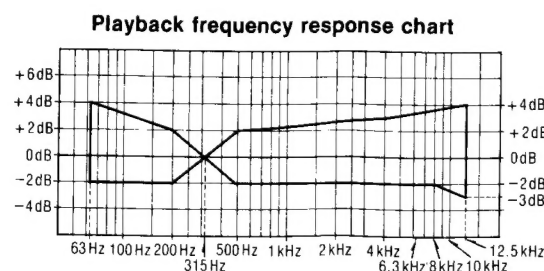

Fig. 8
5. Make sure that the measured values are within the range specified in the frequency response chart (Shown in fig. 8).
9. Place UNIT into metal reference tape (QZZCRX), and 1kHz, 50Hz, 12.5kHz and 15kHz, and check if the overall frequency response is within the range specified in the frequency response chart (Shown in fig. 8).